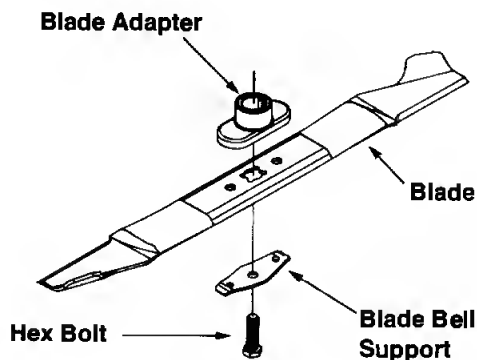

Figure 20
- Install the blade adapter on the crankshaft with the "star" away from the engine. See figure 20.
- Place the blade bell support against the blade aligning the tabs of the bell support with the holes of the blade. Insert the hex bolt through the assembly. Refer to figure 20.